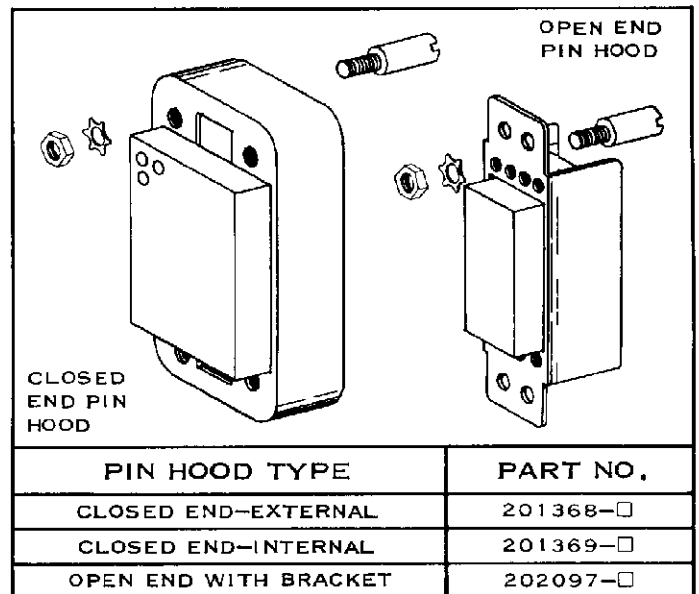

FIGURE 7
- A. Closed End Pin Hoods. See Figure 7. For added protection use an External Pin Hood on one Block and an Internal Pin Hood on the mating Block.
- B. Open End Pin Hoods. These parts contain an Integral Mounting Bracket, which allows attachment of accessories to the Block before panel mounting. See Figure 7. Make the panel cut-out for this Pin Hood according to the instructions packaged with the Pin Hood.